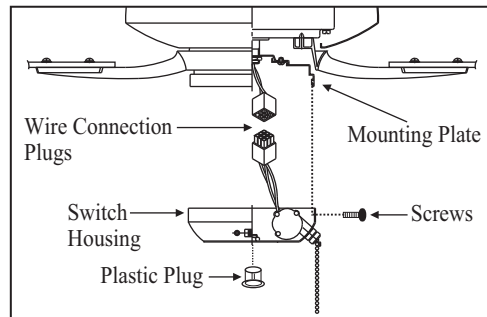

Figure 14
2. Attach the plastic plug to the switch housing. (Fig. 14)
4. Install the switch housing to the mounting plate with screws provided. (Fig. 14)